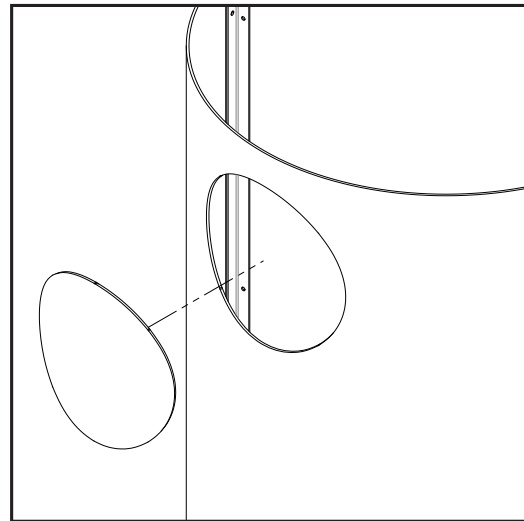

Figure 74: Rear Chassis Punchout
12. Remove the punchout from the rear chassis using a sizeable hammer (see Figure 74). Place a cloth down around the perimeter to prevent damage to the chassis in case you accidentally strike the painted surface.